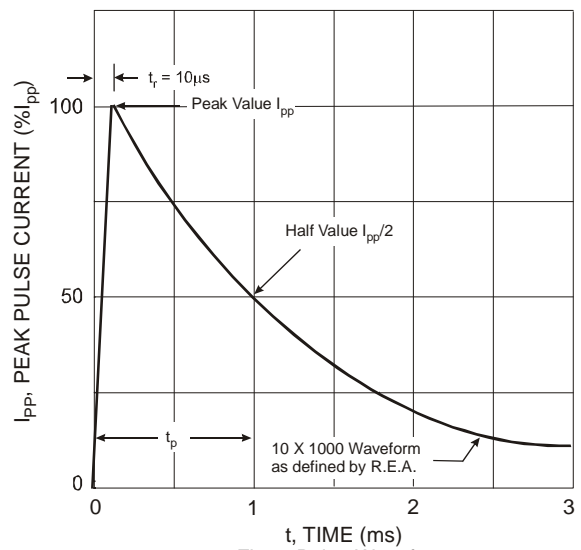

Fig. 2 Pulse Waveform
5. Non-Repetitive current pulse as shown in Figure 2.